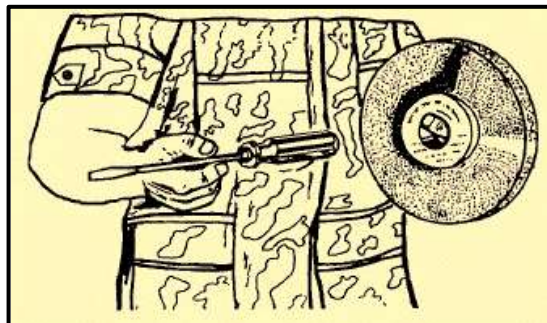

Figure 5-11. Checking for cracks.
**Inspection of Grinding Wheels:** When a grinding wheel is received in the shop or removed from storage, it should be inspected closely for damage or cracks. Check a small wheel by suspending it on one finger or with a piece of string. Tap it gently with a light nonmetallic instrument, such as the handle of a screwdriver (Figure 5-11).